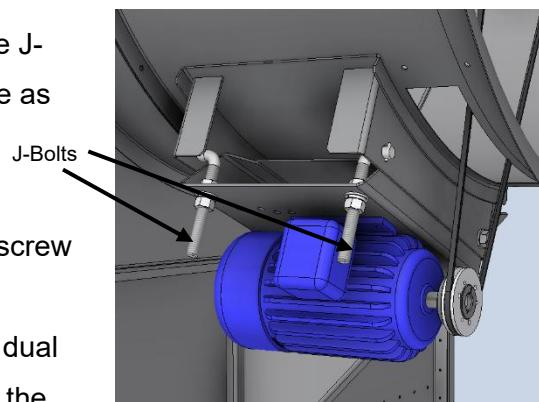

Figure 5. Adjustable Motor Base
- a. If motor needs to be adjusted for 5X units, use J-Bolts and respective nuts to adjust motor base as required **Figure 5**.